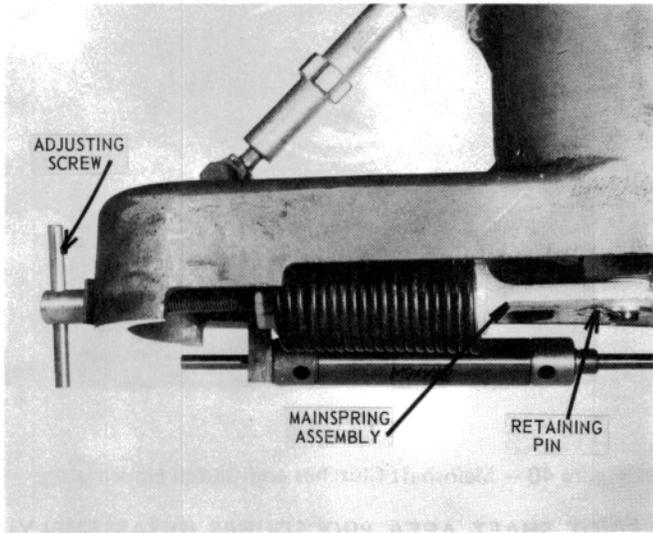

Figure 33 – Mainspring Assembly and Adjusting Screw
1.2.10 Release all tension from the mainspring by turning the adjusting screw counterclockwise until it has disengaged the mainspring assembly (see Figure 33). Remove the adjusting screw assembly, the retaining pin, and the mainspring assembly.